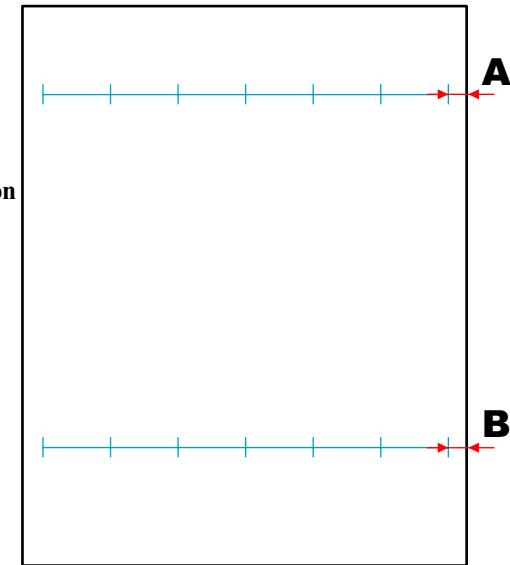

Figure 5-66. Adjustment Pattern
4. Measure the distances of A and B as shown in Figure 5-66.